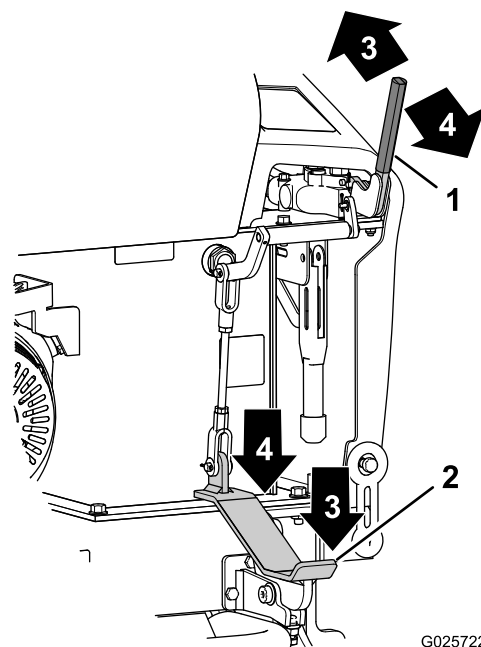

Figure 9
- Dump the hopper by pushing forward the dump handle or pressing down on the forward part of the dump pedal (Figure 9).
- Move the hopper to the upright position by pulling back the dump handle or pressing down on the rear part of the dump pedal (Figure 9).